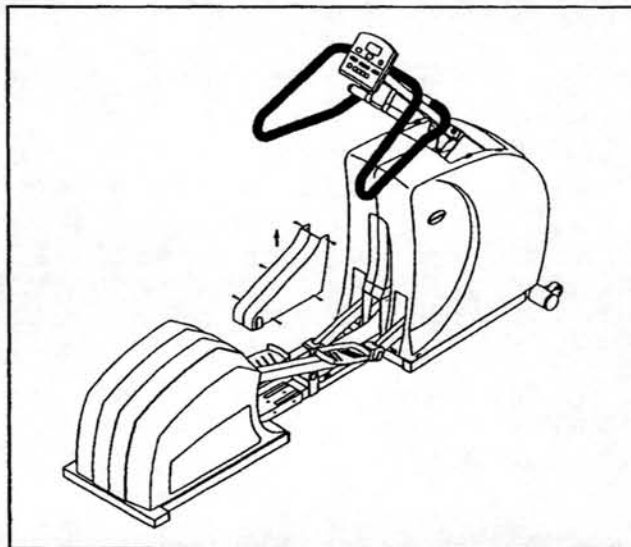

Fig.2-2
2. Remove the PROTECTIVE CENTER COVER by unscrewing all screws. (see fig.2-2)